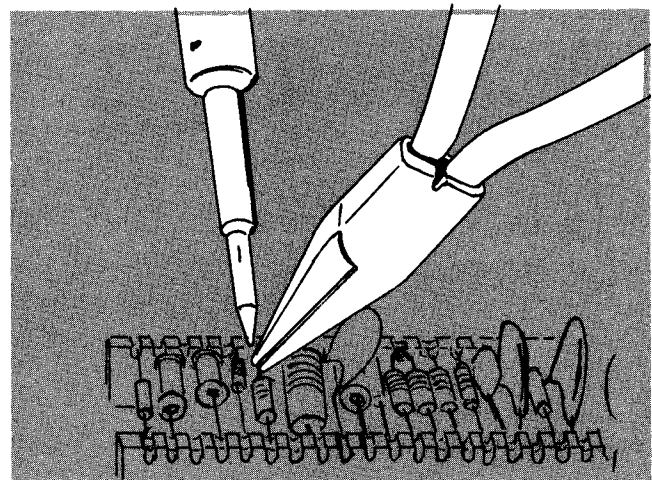
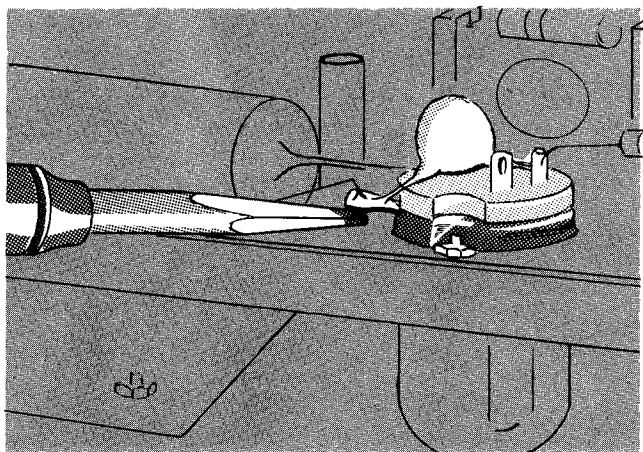

Fig. 5-2. Correct method of applying heat when unsoldering or soldering a lead in a ceramic strip.
Fig. 5-4. Soldering to a metal terminal. Note the slight fillet of solder formed around the wire.
3. Apply one corner of the soldering iron tip to the notch where you intend to unsolder the lead (see Fig. 5-2).
In soldering leads to metal terminals (examples: inter-connecting plug, pins on a tube or transistor socket) a similar technique should be employed. Use a soldering iron tip having a shank diameter of $\frac{1}{8}$ " so that it will go through small spaces between wiring. Prepare the soldering iron as outlined previously and apply the iron to the part to be soldered as shown in Fig. 5-2. Allow the joint to heat sufficiently to permit the solder to flow freely and to form a smooth, slight fillet around the wire as shown in Fig. 5-4.